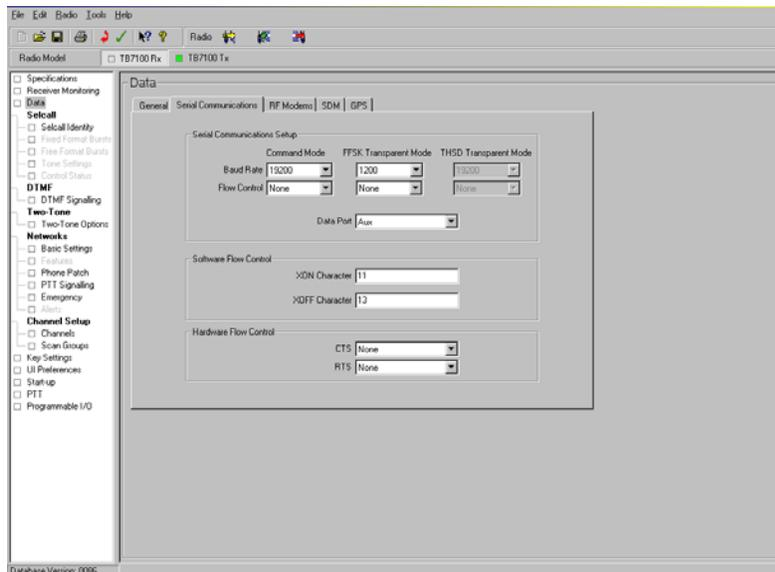

Figure 4
- Under Data>Serial Communications set the following parameters as in figure 4: